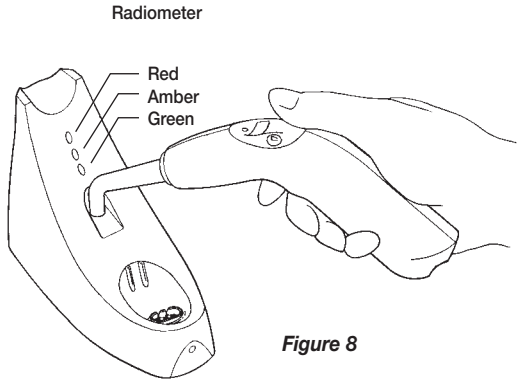

Figure 8
- Remove the handpiece from the charging base and place the output end of the fiberoptic probe onto the radiometer detector (Figure 8).
- Activate the curing cycle (see *Operation* above). The radiometer will light one of three radiometer indicator lights on the charging base immediately above the radiometer detector corresponding to three power levels (see Figure 8):